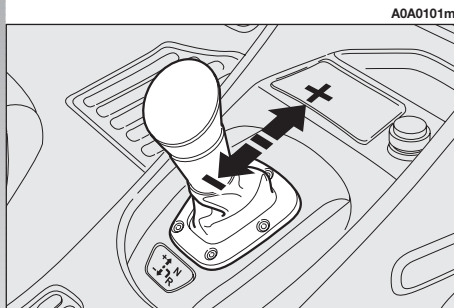

fig. 101
- to shift upwards (+) (**fig. 101**) push the lever “forwards” (if the car is in first gear it shifts to second, if in second it shifts to third and so on up to fifth). If the system is in neutral (**N**) or reverse (**R**) moving the lever forwards causes the engagement of first gear (**1**).
- to shift downwards (–) (**fig. 101**) push the lever backwards (if the car is in fifth gear it shifts to fourth, if in fourth it shifts to third and so on down to first gear).